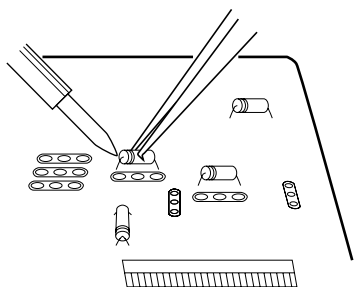

**Fig. 1-7-2**
4. Form leads of the replacement part (general part equivalent to the chip part) as shown in the figures and solder place. (Fig. 1-7-2)